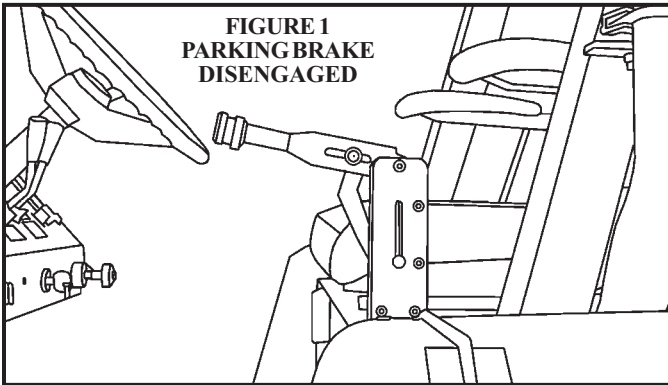

FIGURE 1
2. Drive sweeper near truck. Turn off sweeper engine, set sweeper parking brake (See Figures 1 & 2).